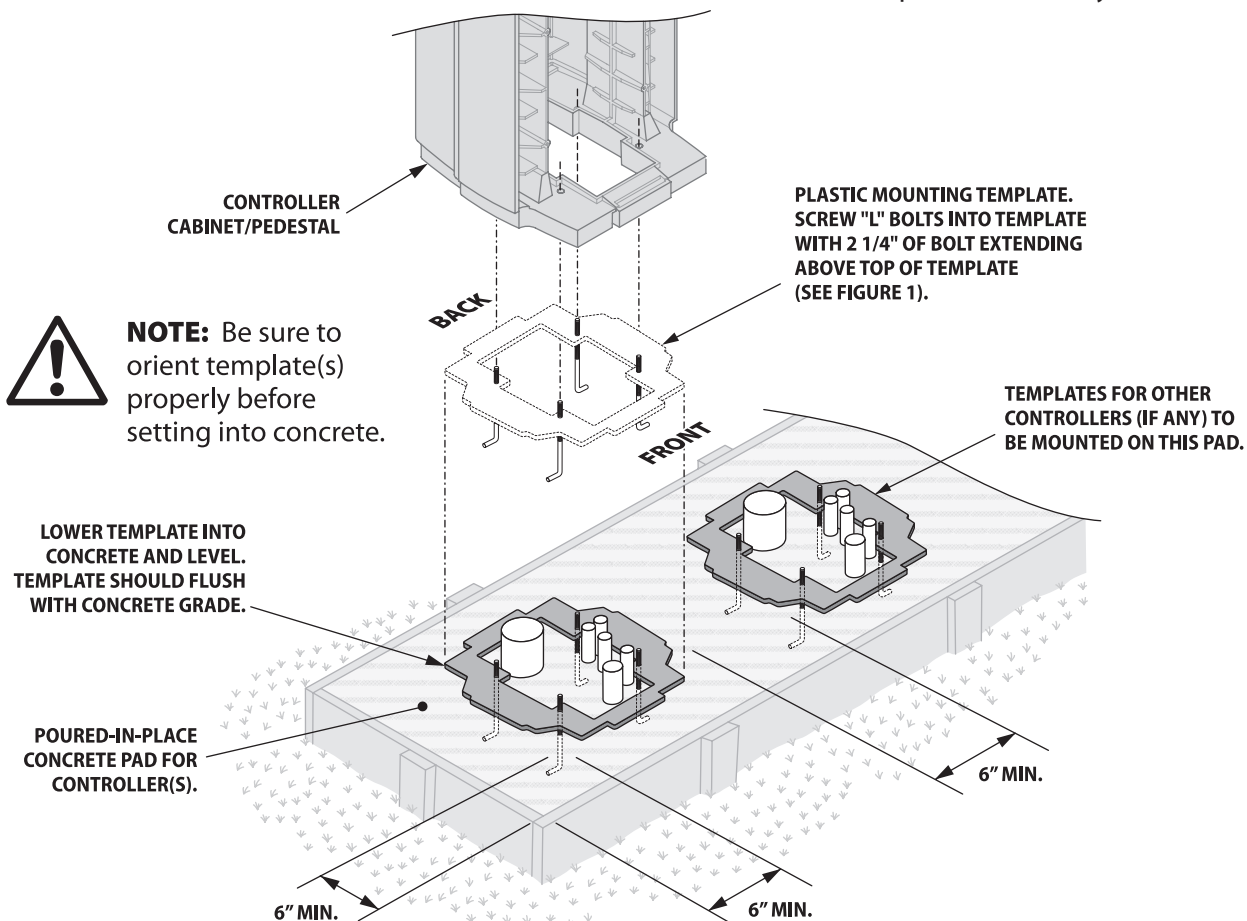

Figure 2
- **Size** - 20" x 20" minimum. If mounting multiple controllers on the same pad, size the pad to allow at least 6" clearance between controllers (see Figure 2).
2. Lower the mounting template onto the pad, setting the L-bolts into concrete as shown in Figure 2. Make sure the template is level and properly oriented before setting it into concrete at concrete's grade. Make sure the L-bolts extend true vertical from the pad.